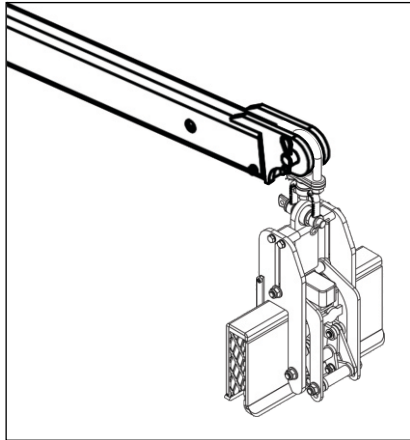

Figure 1.1
**Step 1:** Hook the Super Multi Material Lifter Automatic to a forklift boom (Figure 1.1).